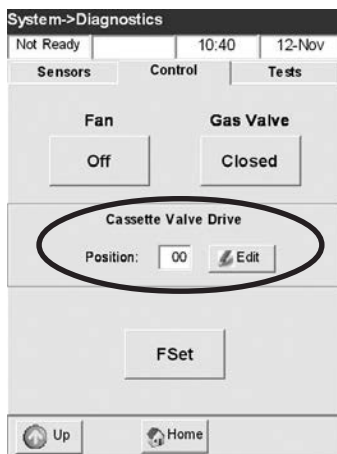

Fig. 7-10 Valve Drive
- Press  to start the test (Fig. 7-10).